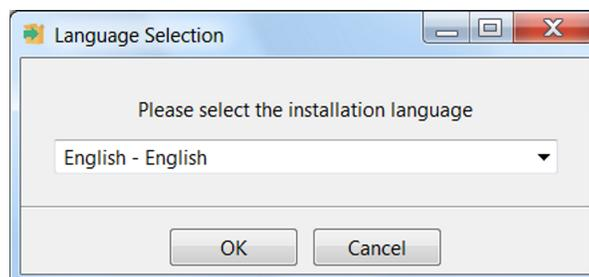

Figure 15. Language Selection
- Step 2. Follow the prompts to select another language from the default of English (see Figure 15).